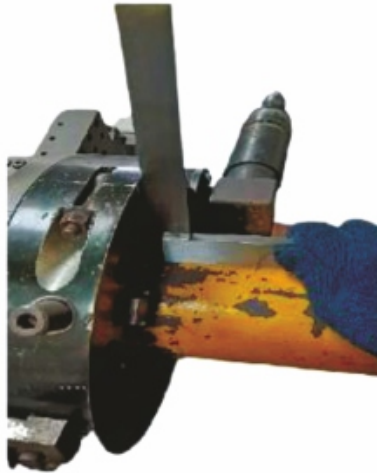

Fig 8. Checking 90° angle
1. **SQUARING:** Place a Square on the back of the machine, directly in line with a locator, hold the square against the housing and the work piece and square the machine to the work piece at all four locations around the pipe (see Figure 8 below).